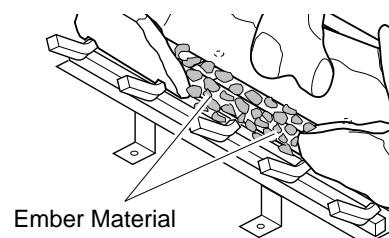

Figure 50 - Placing Ember Material on Burner
7. Pull ember material apart into pieces no larger than a dime. Place these pieces loosely and sparingly directly onto the exposed section of the front burner and along the space between the burner and grate prongs (see Figure 50). This will create the glowing ember appearance as the flame touches the ember material. Do not block air slots by using too much ember material in one area. It is not necessary to use all of the ember material provided.